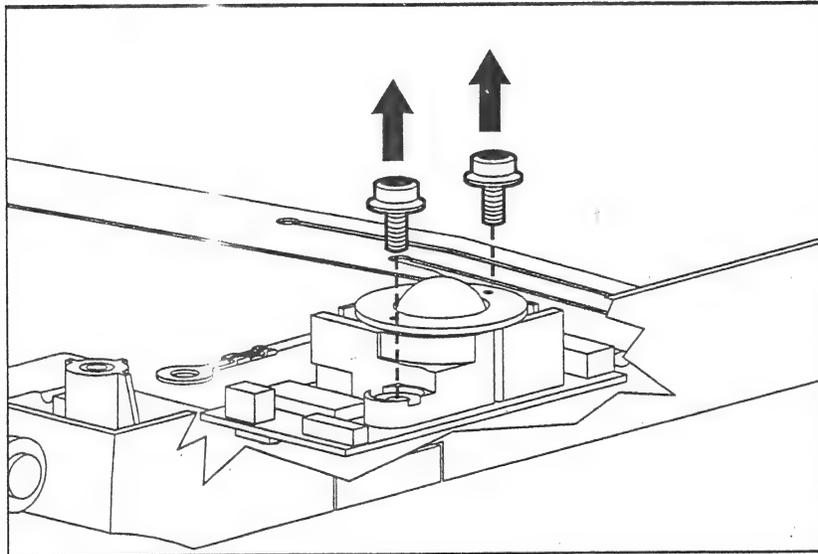

Figure 2-26. Removing the Trackball Screws
3. Using a JIS-0 screwdriver, remove two screws that secure the trackball connector (Figure 2-26).